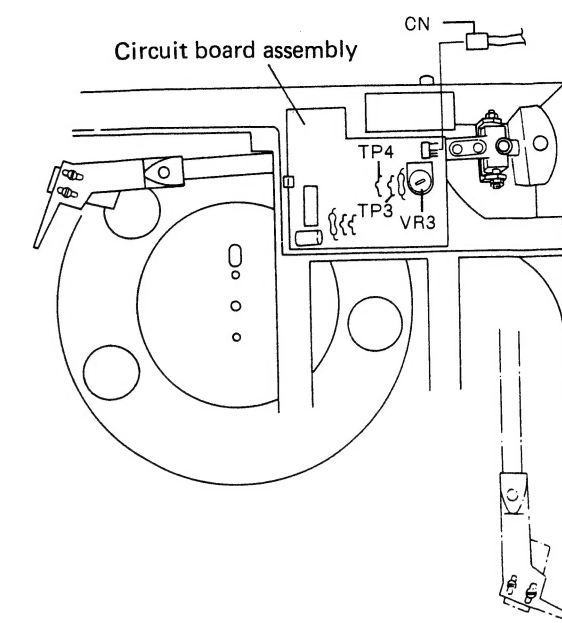
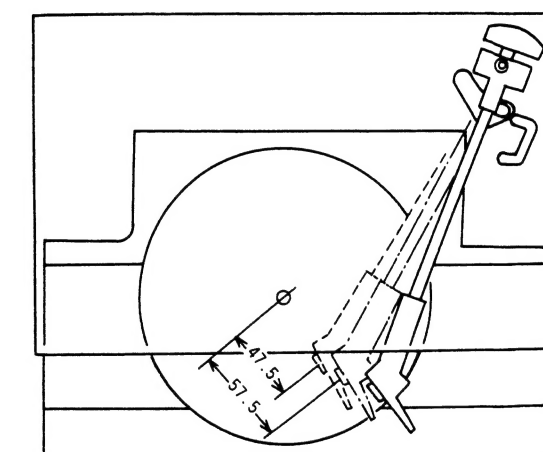

Fig. 12-3 End sensor adjustment 1
Fig. 12-4 End sensor adjustment 2
2. With the unit in playback status, turn off the power switch. Then, disconnect the connector (CN) from the circuit board assembly to make sure the mechanism motor and turntable motor does not move.
3. Connect a DC voltage meter between TP3 and TP4 (GND) as shown in Fig. 12-3. Turn the power switch on, and position the stylus of the tonearm 47.5mm from the center shaft. Read the voltage from the voltage meter at this position. (Fig. 12-4).